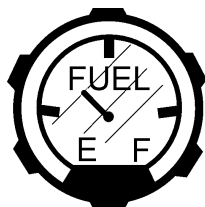
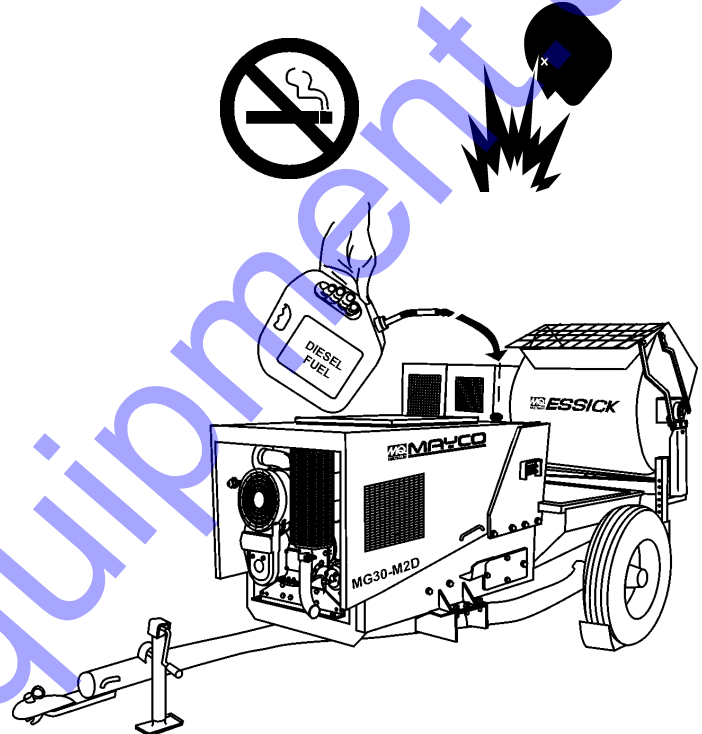

Figure 24. Fuel Gauge (Pump)
Figure 25. Adding Diesel Fuel
1. Read the fuel gauge (Figure 24) on top of the fuel tank to determine if the pump's engine fuel is low. If fuel is low, fill with **#2 diesel fuel** (Figure 25).